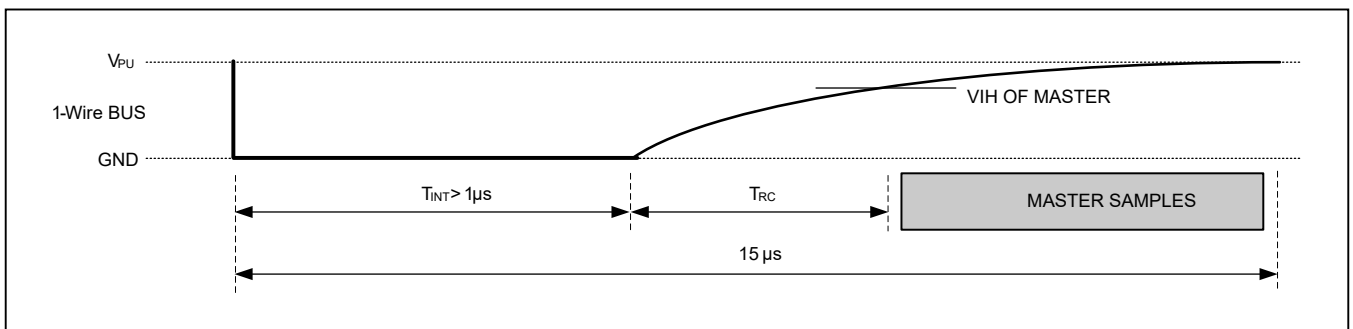
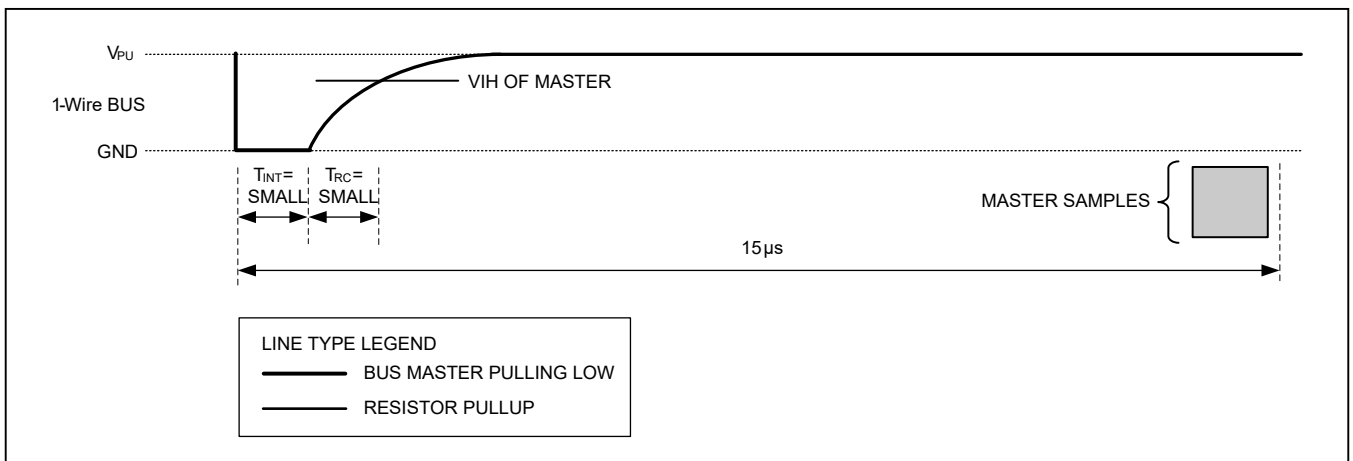

Figure 17. Detailed Master Read 1 Timing
Figure 18. Recommended Master Read 1 Timing
Figure 17 illustrates that the sum of T_{INIT} , T_{RC} , and T_{SAMPLE} must be less than 15µs for a read time slot. Figure 18 shows that system timing margin is maximized by keeping T_{INIT} and T_{RC} as short as possible and by locating the master sample time during read time slots towards the end of the 15µs period.
- 3) See typical performance curve in Figure 17.